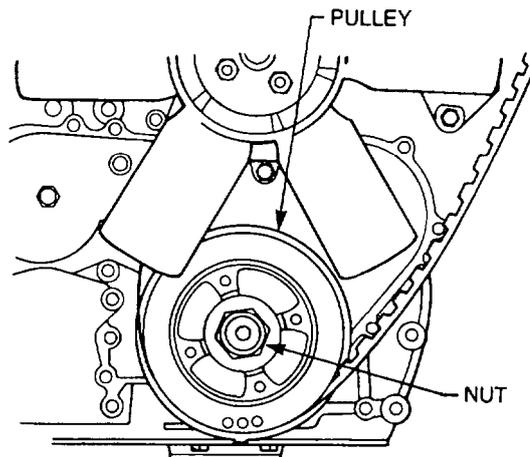

Figure 37 Crankshaft Pulley - Removal
- f. Remove the crankshaft front nut and washer (Figure 37).